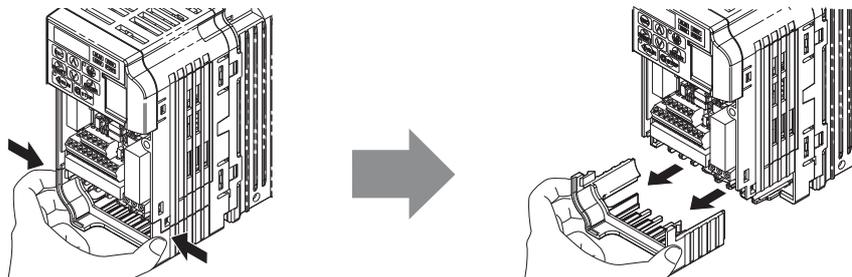
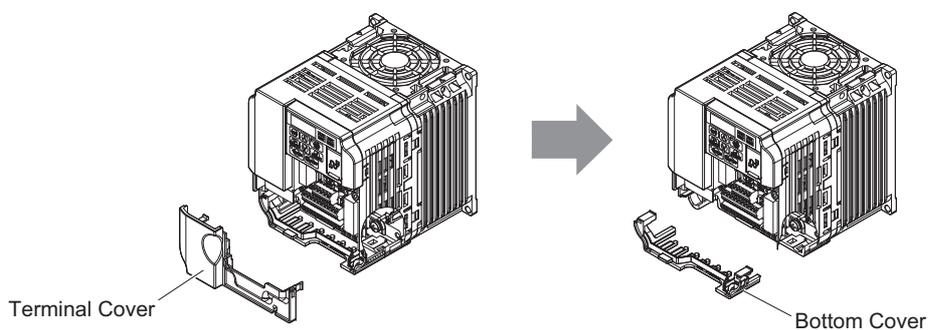

Figure 5 Remove the Bottom Cover on an IP20/Open-Chassis Drive (Models CIMR-V□BA0001B to BA0003B and 2A0001B to 2A0006B)
Figure 6 Remove the Terminal Cover and Bottom Cover on an IP20/Open-Chassis Drive (Models CIMR-V□BA0006B to BA0018B; 2A0008B to 2A0069B; 4A0001B to 4A0038B)
- For IP20/Open-Chassis models CIMR-V□□A□□□□B, Remove the bottom cover of the drive by applying pressure to the tabs on each side of the bottom cover. Pull the bottom cover away from the drive while pushing in on the tabs to release the cover from the drive. Refer to **Figure 5** for details. Refer to **Figure 6** for drive models CIMR-V□BA0006B to BA0018B, 2A0008B to 2A0069B, and 4A0001B to 4A0038B, which require removing the terminal cover prior to removing the bottom cover.